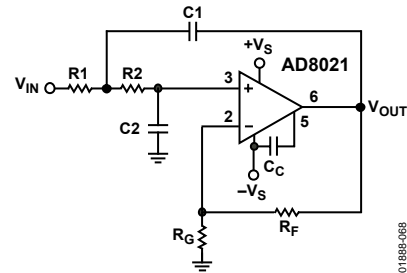
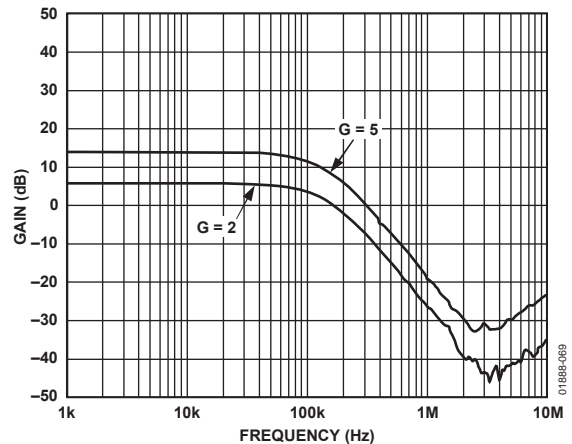

Figure 68. Schematic of a Second-Order, Low-Pass Active Filter
Figure 69. Frequency Response of the Filter Circuit of Figure 68 for Two Different Gains
Figure 68 shows the schematic of a 2-pole, low-pass active filter and lists typical component values for filters having a Bessel-type response with a gain of 2 and a gain of 5. Figure 69 is a network analyzer plot of this filter's performance.
**Table 9. Typical Component Values for Second-Order, Low-Pass Active Filter of Figure 68**